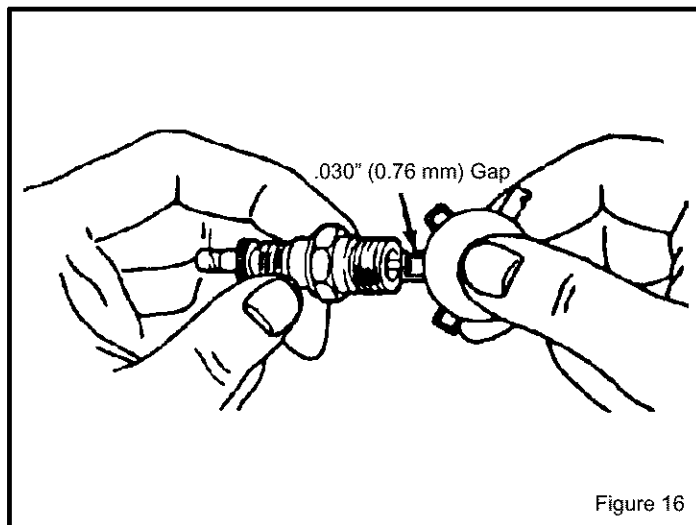

Figure 16
7. Set the gap between the electrodes of the new spark plug at 0.030 inch (Figure 16).